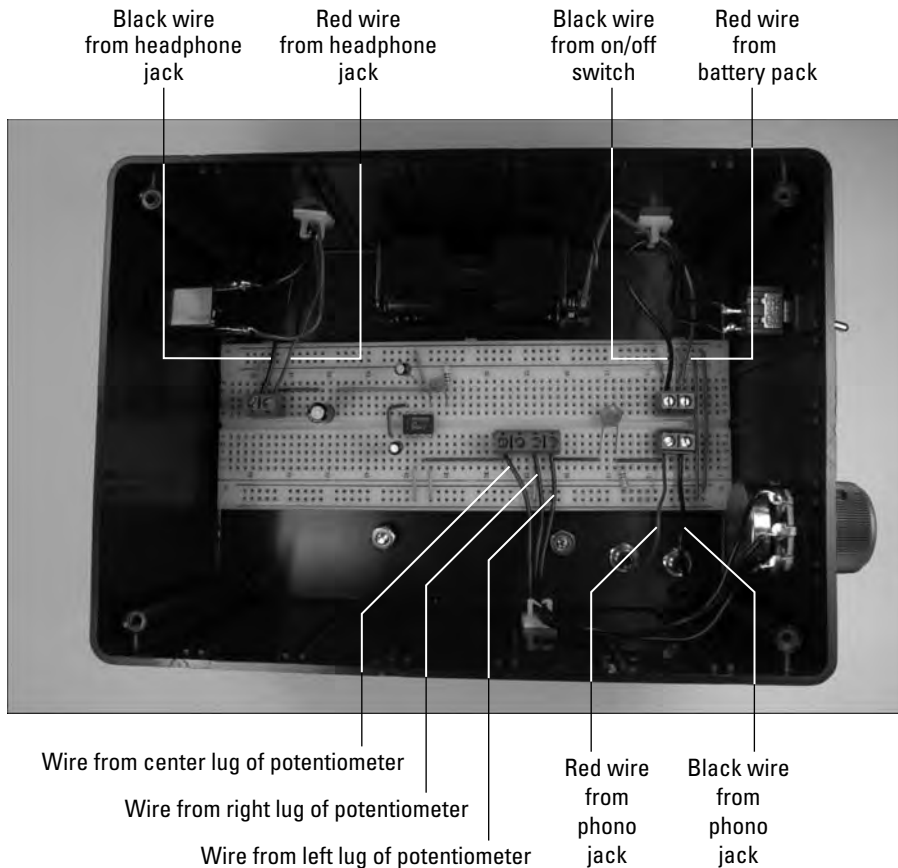

Figure 6-18: Connect the headphone jack, potentiometer, on/off switch, and battery pack to the breadboard.
3. Insert the wires from the headphone jack, potentiometer, phono jacks, battery pack, and the on/off switch to the terminal blocks on the breadboard, as shown in Figure 6-18.